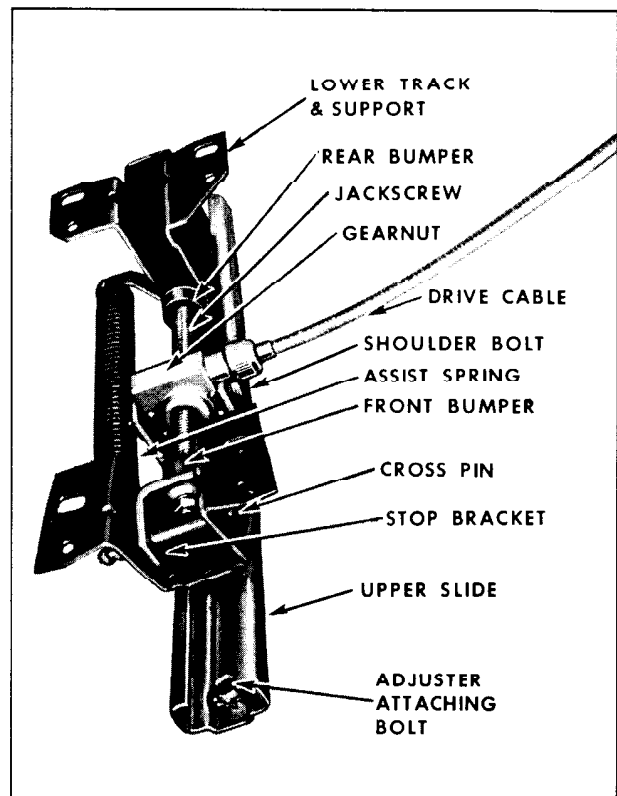

Fig. 17-68 Two-Way Seat Adjuster
2. Detach power drive cable from gear nut of adjuster to be removed. (Fig. 17-68)
3. Remove seat adjuster-to-seat bottom frame front and rear attaching bolts. (Fig. 17-68)
3. Using a "clutch" type screwdriver, remove two shoulder bolts securing gear nut to upper slide portion of seat adjuster assembly. (Fig. 17-68)
4. Remove retainer that secures stop bracket crosspin to adjuster front pedestal and remove crosspin. (Fig. 17-68)
2. Using a "clutch" type screwdriver, remove two shoulder bolts securing gear nut to upper slide portion of seat adjuster assembly. (Fig. 17-68)